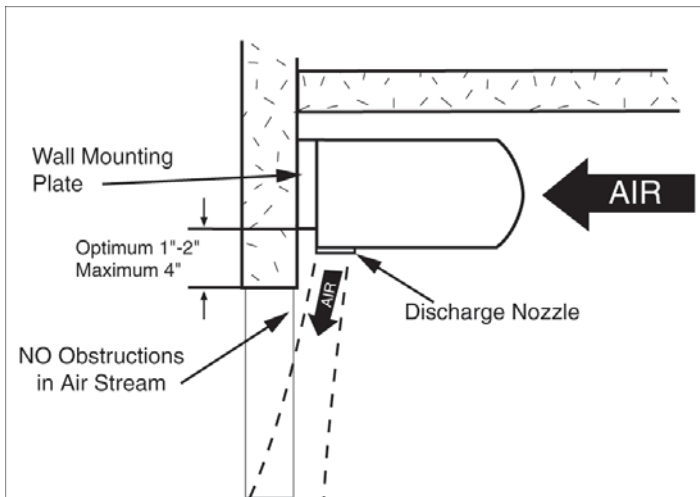

FIGURE 2 - Standard Wall Mounting
- D. Position the center of the wall mounting plate over the center of the door opening with the larger opening of the key hole slots facing up. For optimum performance, the bottom of the mounting plate should be *no more than 2"* or *less than 1"* above the top of the door opening. The wall mounting plate thickness provides a natural $\frac{3}{4}$ " space which allows for mounting it up to 4" above the opening. **See Figure 2**